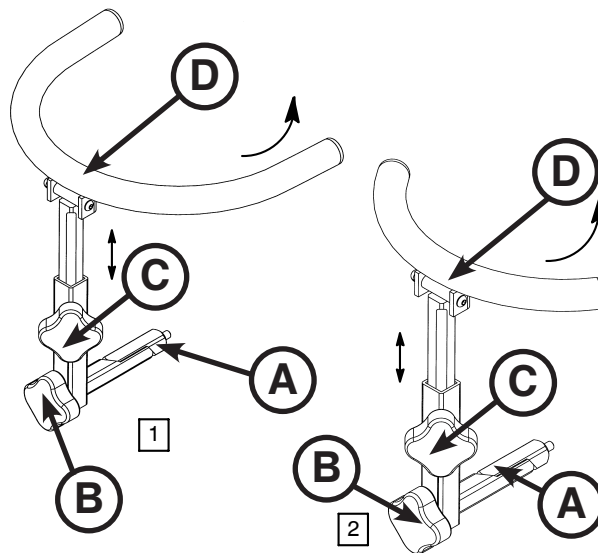

Figure 13: Wrist Rests
1. Insert the support tube (A) into the socket in the fowler head piece assembly as shown in Figure 13.
2. Turn the knob (B) clockwise to secure the wrist rest assembly as shown in Figure 13.
- Turn the knob (C) counterclockwise to loosen it as shown in Figure 13.
Note: The "U" shaped rest (D) can be pivoted up and away from the patient when the wrist rest is not in use as shown in Figure 13.